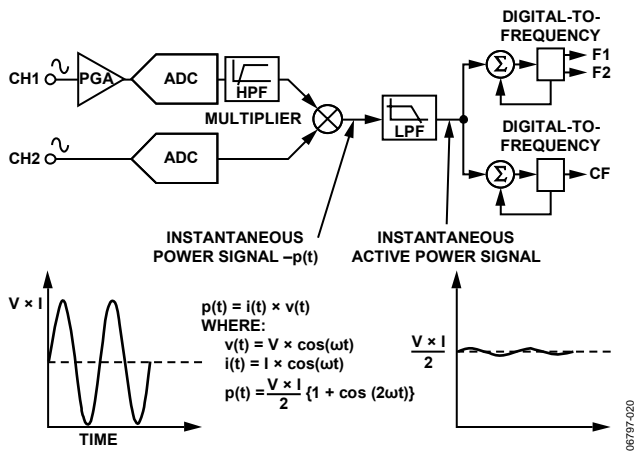

Figure 22. Signal Processing Block Diagram
The active power calculation is derived from the instantaneous power signal. The instantaneous power signal is generated by a direct multiplication of the current and voltage signals. To extract the active power component (dc component), the instantaneous power signal is low-pass filtered. Figure 22 illustrates the instantaneous active power signal and shows how the active power information can be extracted by low-pass filtering the instantaneous power signal. This scheme correctly calculates active power for nonsinusoidal current and voltage waveforms at all power factors. All signal processing is carried out in the digital domain for superior stability over temperature and time.
The pulse output calibration frequency (CF) is intended for use during calibration. The output pulse rate on CF can be up to 2048 times the pulse rate on F1 and F2. The lower the f_{1-4} frequency selected, the higher the CF scaling. Table 7 shows how the two frequencies are related, depending on the states of Logic Input S0, Logic Input S1, and Logic Input SCF. Because of its relatively high pulse rate, the frequency at this logic output is proportional to the instantaneous active power. As with F1 and F2, the frequency is derived from the output of the low-pass filter after multiplication. However, because the output frequency is high, this active power information is accumulated over a much shorter time. Therefore, less averaging is carried out in the digital-to-frequency conversion. With much less averaging of the active power signal, the CF output is much more responsive to power fluctuations (see Figure 22).